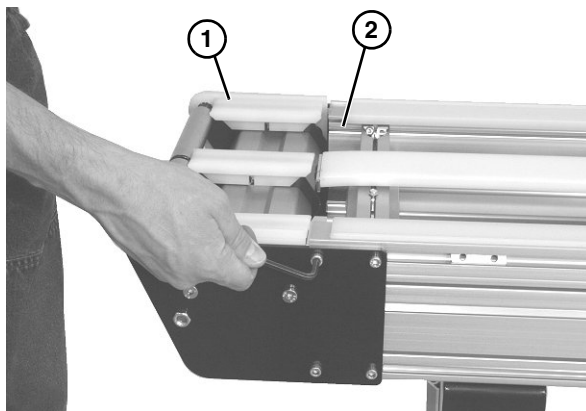

Figure 62
*When reinstalling the idler spindle tail assembly, the idler terminal assembly (**Figure 62, item 1**) should mate flush with the conveyor frame (**Figure 62, item 2**).*